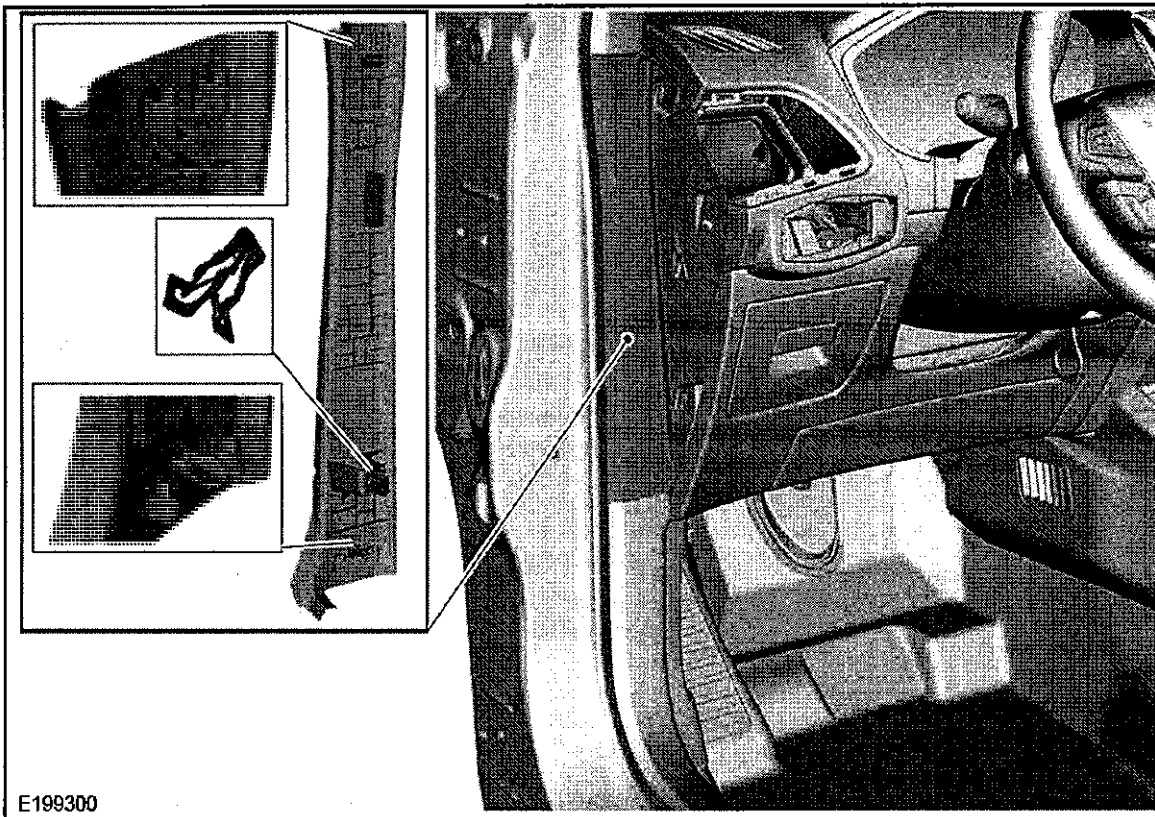

FIGURE 2
3. Release the clips and remove the LH and RH cowl panel upper trim panel. See Figure 2.